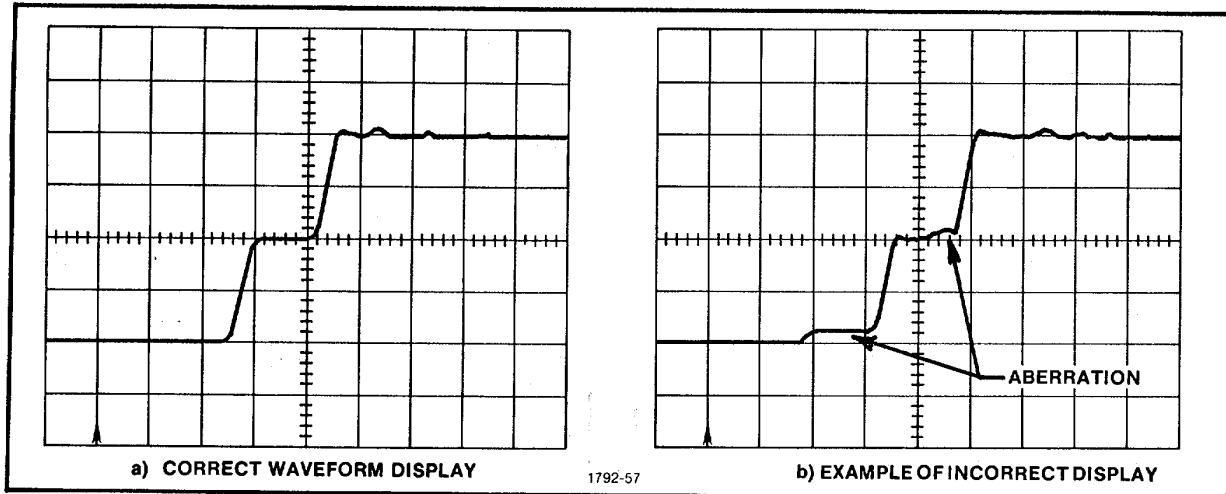

Figure 4-10. Pulse Display.
88. Check-that the incident and reflected pulse both have equal amplitudes (see Fig. 4-10 for photos of the correct display).
89. (a). Adjust-R1525 (AVAL VOLT), R1538 (SNAP-OFF), and R1692 (TD BIAS) located on the MAIN board, for a correctly triggered display as shown in Fig. 4-10.